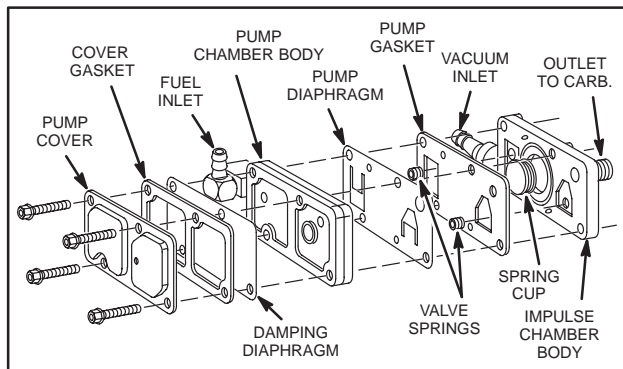

Fig. 313 – EXPLODED VIEW, TYPICAL FUEL PUMP
11. Torque screws to 10 to 15 in. lbs. (1.1 to 1.7 Nm) See Fig. 313 for exploded view.